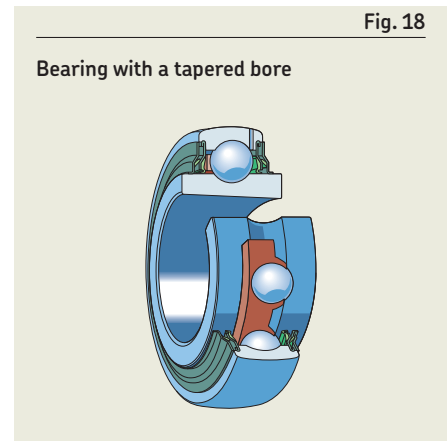

Fig. 18
- have an inner ring symmetrically extended on both sides and a tapered bore (taper 1:12) (fig. 18, bearing series YSA 2)